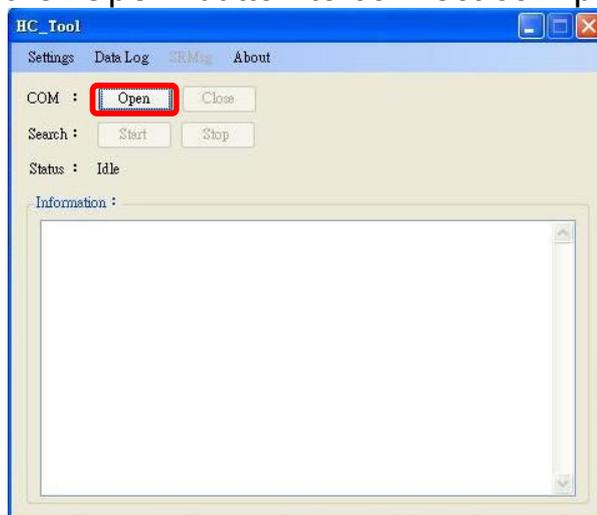

Figure 4-7: Click “Open” button
Step 1: Click the “Open” button to connect com port(Figure 4-7).